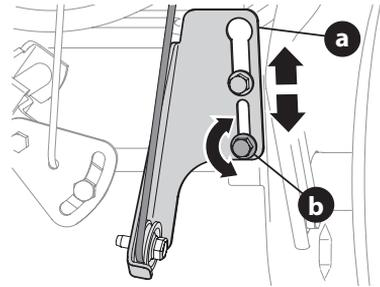

Figure 58
2. Loosen lower hex screw (a) on drive cable bracket (b) (Figure 58).